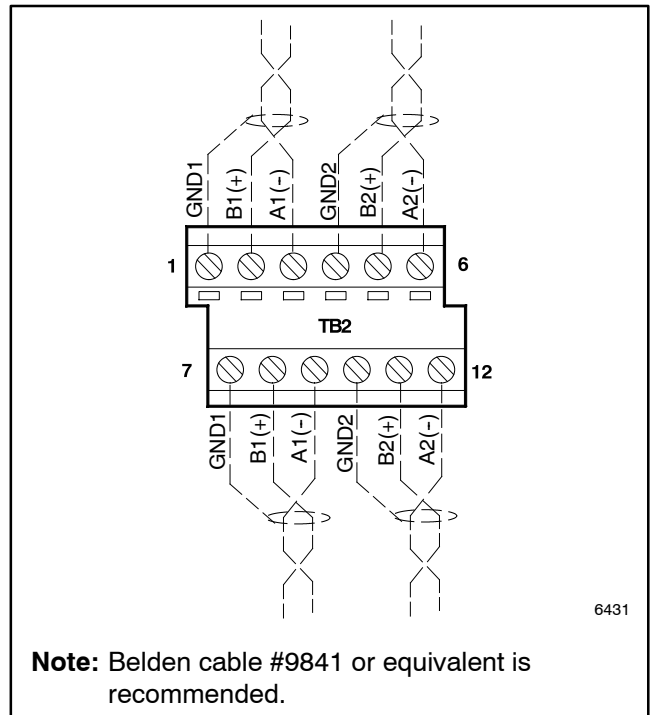

Figure 10-3 RS-485 Connections
- b. Use #12-24 AWG twisted-pair shielded cable; Belden cable #9841 or equivalent is recommended. Connect the Modbus® input and output to terminal strip TB2. See Figure 10-3. Connect A to negative (-), B to positive (+), and the shield to ground as shown in Figure 10-3.